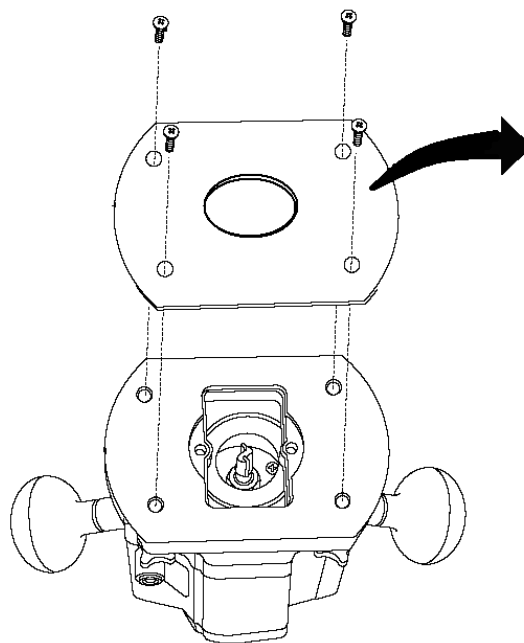
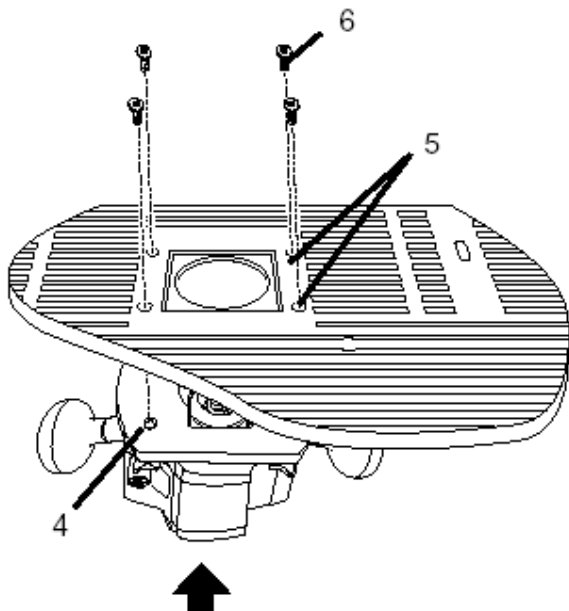
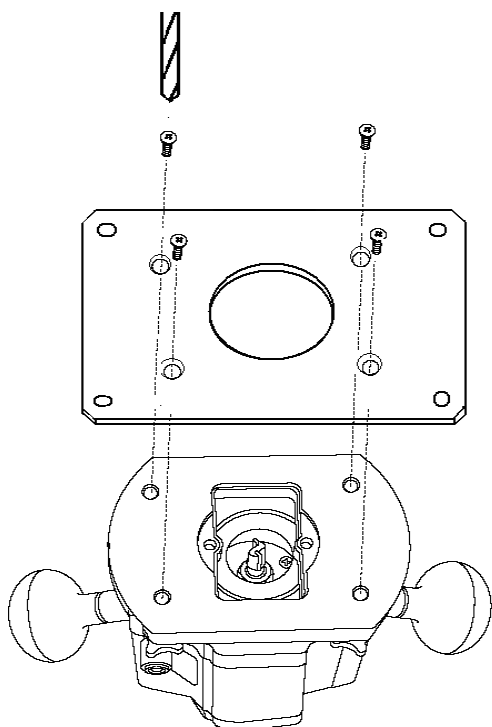
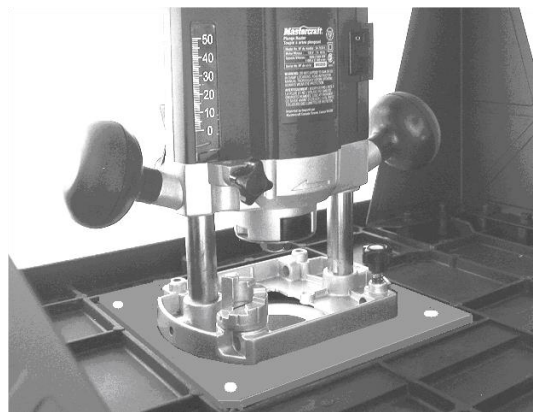

Fig10
Fig 11
Fig 12
Fig 13
Attach the Router to the Table (Fig 10 ~ Fig13)
A) Direct Mount (Fig 10, Fig 11):
Remove the plastic protective plate of your router (Fig 10).
Attach the router to the table by use of supplied screws and nuts (6, Fig 11).
B) Use Mounting Plate (Fig 12, Fig 13):
Holes must be drilled according to your router's hole pattern (Fig 12).
Attach the router to the mounting plate by use of supplied screws and nuts (Fig 12).
Attach the router with mounting plate to the table by use of supplied screws (Fig 13).